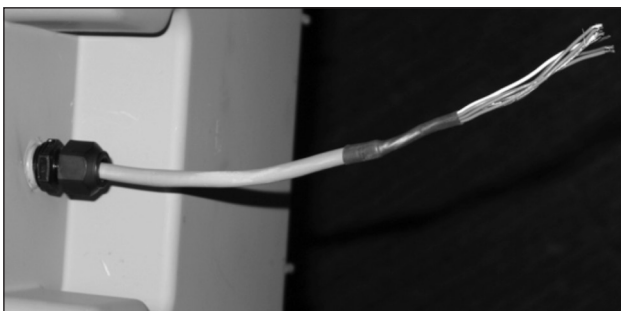

Figure 7.16 - Loosen cable gland and extend the cable out of the gland
3. Loosen the cable gland and pull on the cable till at least 7.5-8" of cable extends out of the cable gland as shown in Figure 7.16. Retighten the cable gland. Torque to 25-27 in. lbs.